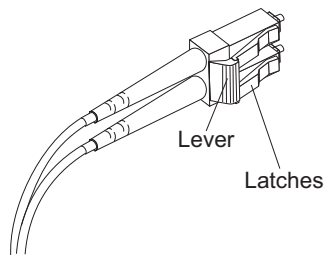

Figure 30. LC-LC fibre-channel cable lever and latches
1. On the end of the LC-LC cable that connects into the SFP module or host bus adapter, press down and hold the lever to release the latches, as shown in Figure 30.